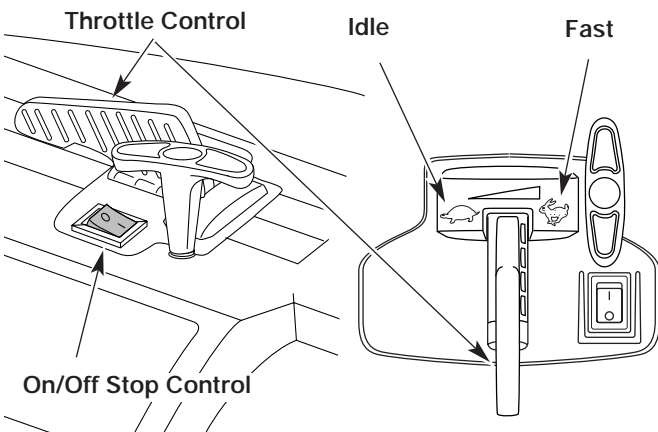
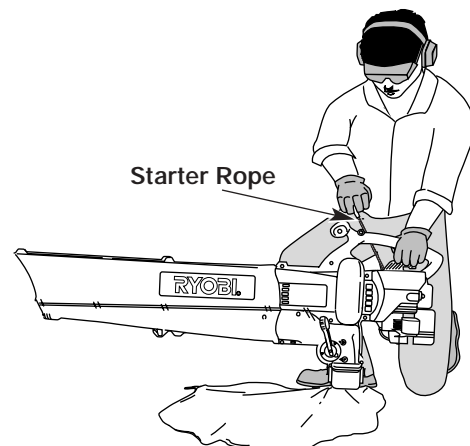

Fig. 9
Fig. 11
NOTE: The On/Off Stop control is a momentary switch and is always in the **ON (I)** position (Fig. 9).
5. With the unit on the ground (Fig. 11), move the throttle control to the fast position (→) (Fig. 9).
6. Pull starter rope briskly (Fig. 11). Continue pulling until the engine sounds as though it wants to run (normally 2 to 5 pulls).
8. Pull starter rope briskly 1 to 3 times to start the engine (Fig. 11).
NOTE: If the engine floods while trying to start, place the choke control in the **RUN (C |+)** position. Move the throttle control to the fast position (☛) (Fig 9). Pull the starter rope briskly. The engine should start with three (3) to eight (8) pulls.
1. Move the throttle control to the idle position (☞) (Fig. 9). Allow the engine to cool down by idling for 10-15 seconds.
2. Press and hold the On/Off Stop control down in the **STOP (O)** position until the engine comes to a complete stop (Fig. 9).
1. Press and hold the On/Off Stop control down in the **STOP (O)** position until the engine comes to a complete stop (Fig. 9).